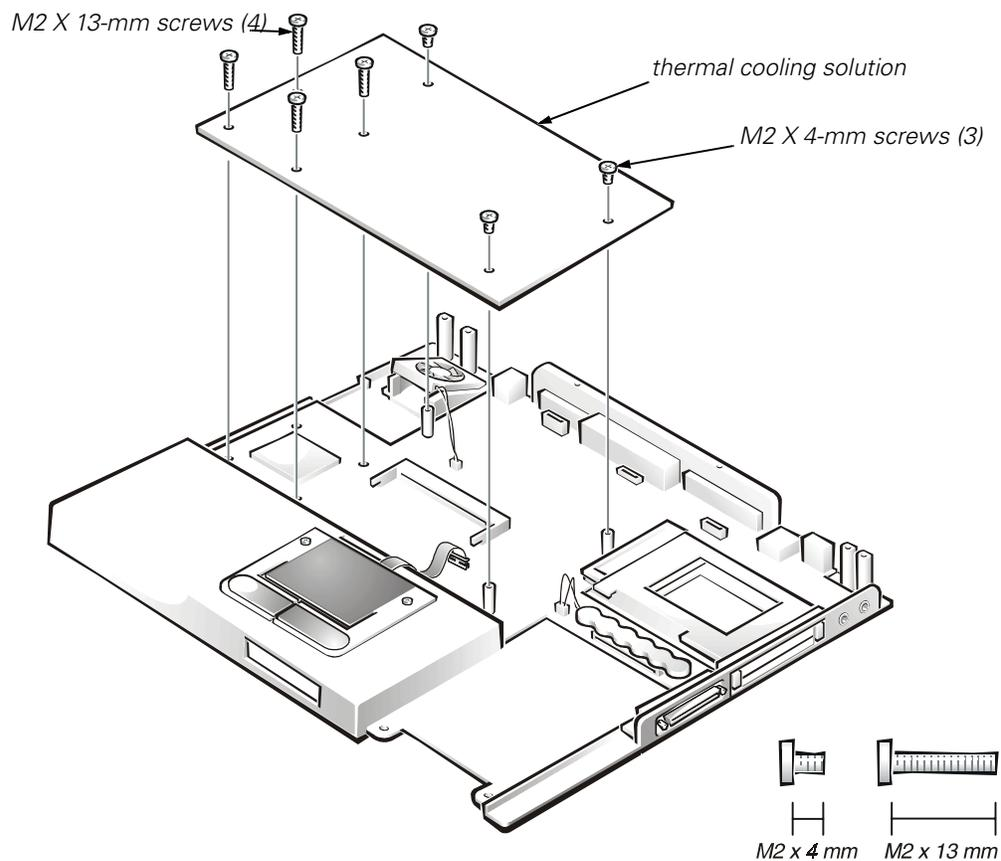

Figure 18. Thermal Cooling Solution Removal
5. Remove the thermal cooling solution (see Figure 18).
2. Remove the four M2 x 13-mm screws grouped around the section of the thermal cooling solution that covers the microprocessor (see Figure 18).
2. Remove the thermal cooling solution (see Figure 18).